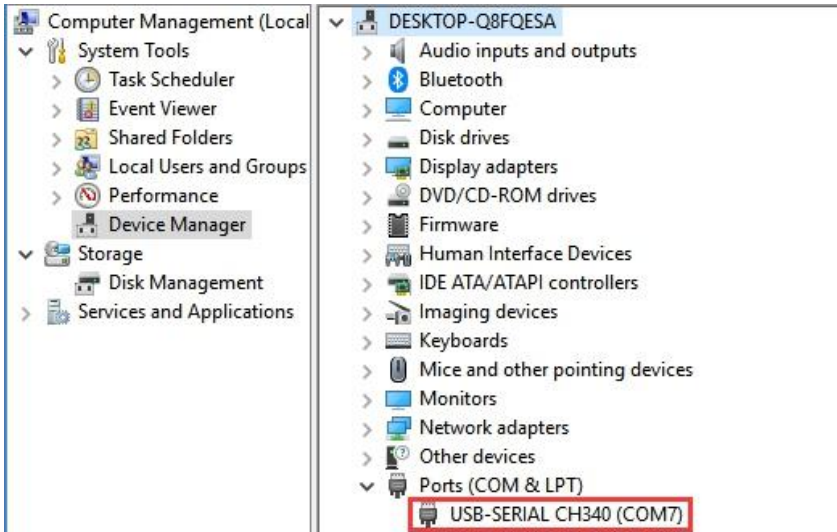

Figure 12 Driver Installation Successful
Step 3: Right click “This PC”, then click “Management”, then click “Device Manager”, then you can check whether the installation is successful or not as shown in **Figure 12**.